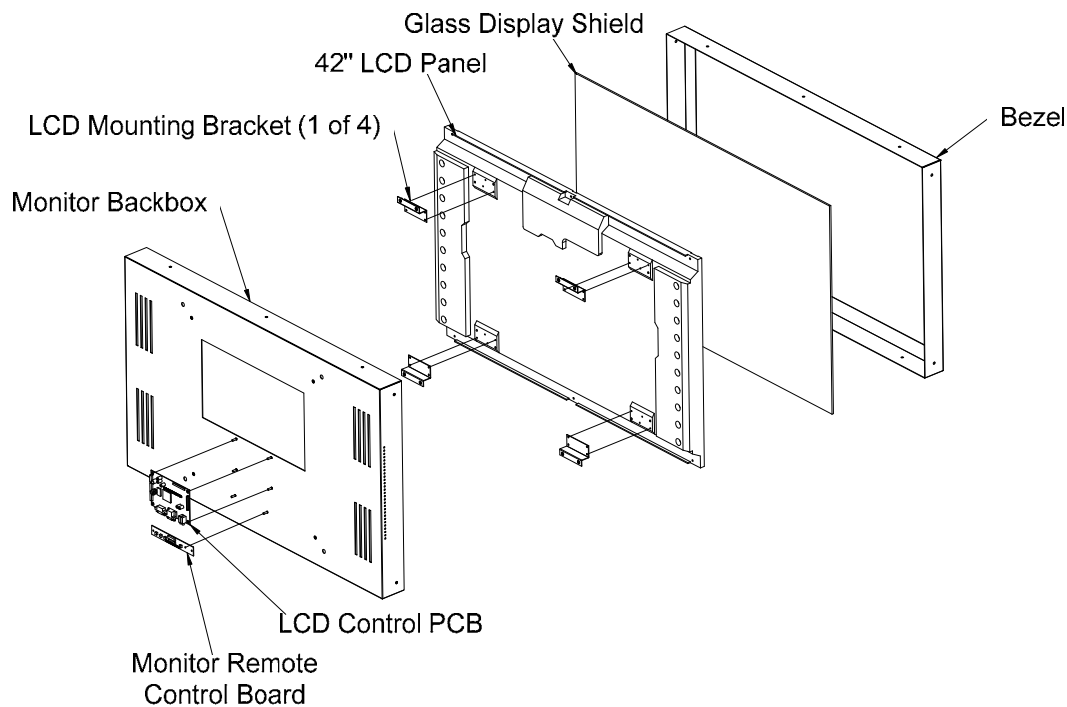
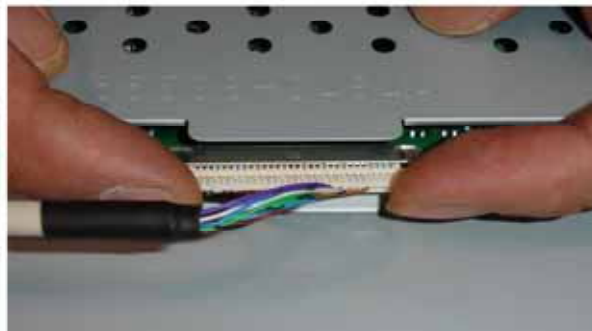

Figure 26. Monitor Assembly Exploded View (42" Cabinet)
Figure 30. Connecting the LCD Control PCB Harness
The 42" LCD Monitor is connected to an LCD Control PCB that provides the signal, power, and data to the monitor. The monitor is encased in a metal bezel and backbox assembly with a glass display shield to protect the LCD panel. The Control PCB is mounted to the backbox inside the cabinet. Power is provided by a dedicated 24 VDC power supply that connects to the Control PCB and the AC power strip. The sections that follow provide replacement procedures for LCD Monitor Assembly components. Figure 26 shows an exploded view of monitor assembly.
14. Reverse these steps to install the new LCD monitor. Read the caution below and refer to Figure 30 to avoid breaking the LCD Control PCB connector.
CAUTION: It is very **EASY TO BREAK** the plastic housing around the connector on the LCD Control PCB. Align the connector carefully, and gently push straight in with your thumbs on both sides. **DO NOT FORCE.** Pressing too hard can break the plastic. See Figure 30 for the correct way to connect the harness.
3. Refer to Figure 26 to identify monitor assembly components. Carefully disconnect all of the cables and wire harnesses from the Control PCB. (Depending on the PCB model, you may need to remove the PCB from the backbox before you can disconnect the power harness.)
4. Remove the four (4) screws that secure the PCB to the monitor backbox and remove the PCB.
5. Reverse these steps to install the new PCB. Read the caution below and refer to Figure 30 to avoid breaking the LCD Control PCB connector.
CAUTION: It is very EASY TO BREAK the plastic housing around the connector on the LCD Control PCB. Align the connector carefully, and gently push straight in with your thumbs on both sides. DO NOT FORCE. Pressing too hard can break the plastic. See Figure 30 for the correct way to connect the harness.
Perform the steps under *Monitor Replacement (32" Cabinet)*, above, but remove and replace only the LCD Control PCB from the monitor assembly in step 8. Be sure to see Figure 30 on page 53 for the correct way to connect the Control PCB Harness to avoid breaking the connector.